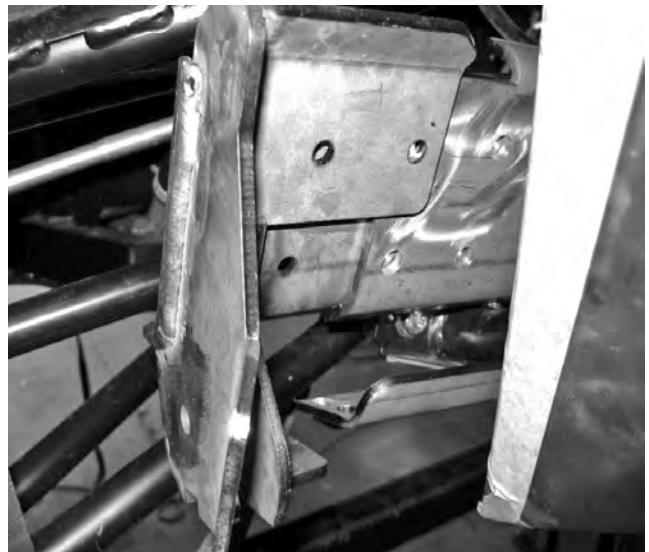

Figure 6
7. Slip the left and right plow end supports (A2, A3) into position over the end of the main support bracket (A1); see figure 6.